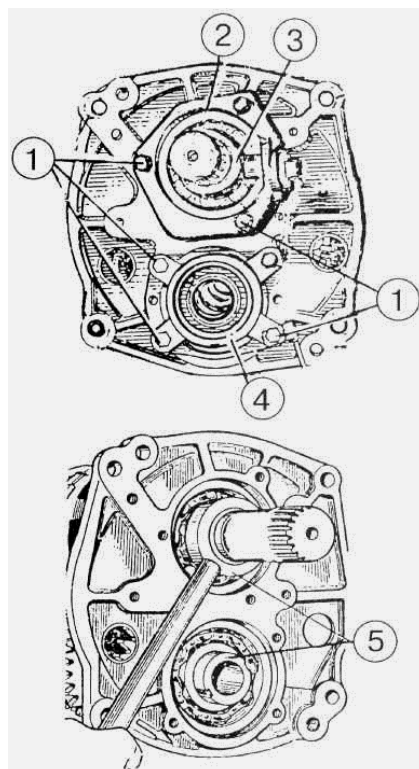

Figure 4.64
- a) unscrew bolts 1 (Figure 4.64) and remove bushing of lubricant conduit 3 , cover 2 , cup 4;